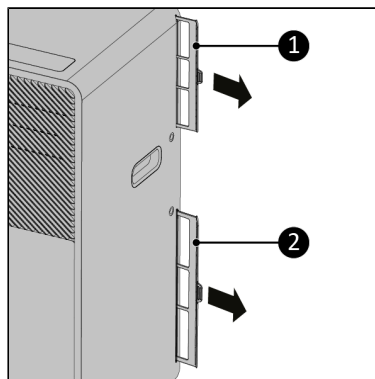

Figure 38.
3. The device has two filters on inside of the device. Pull out both filters (Figure 38, pos. 1 & 2) from the side of the device.